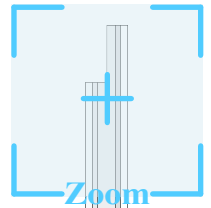

Fig. 31
Step 3. Zoom in on rear, **Fig. 31**.